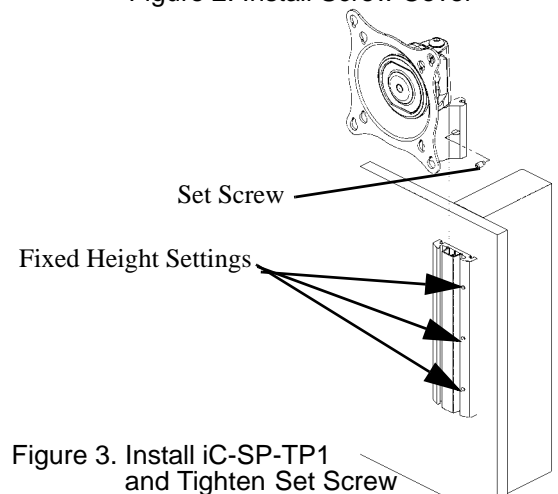

Figure 3. Install iC-SP-TP1 and Tighten Set Screw
- A. Install the iC-SP-TP1-01 on the wall plate, set to desired height at one of the fixed height settings and secure by tightening the set screw (see Figure 3).
- H. Install the iC-SP-TP1-01 on the wall plate, set to desired height at one of the fixed height settings and secure by tightening the set screw (see Figure 3).